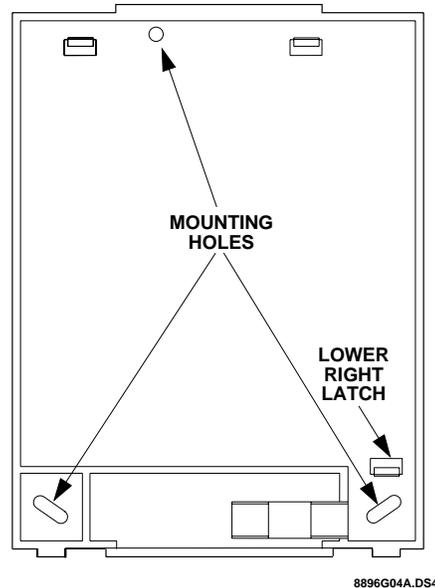

Figure 7. Base Mounting Hole Locations
- 2) Press down on the lower right corner of the base until the lower right latch releases the circuit board (see Figure 7).
- 4) Hold the base against the mounting surface and mark the three mounting holes (see Figure 7). Leave at least 10" above the base for the antennas.